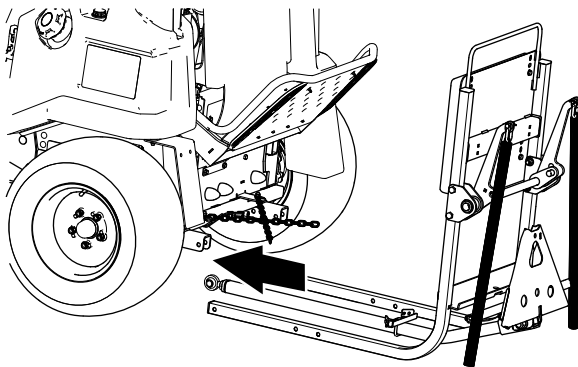

Figure 11
- Install the tow-stop bracket to the drawbar with a U-bolt and 2 flange locknuts (5/16 inch) as shown in Figure 11.
- Align the rear attachment lift frame under the machine (Figure 11).